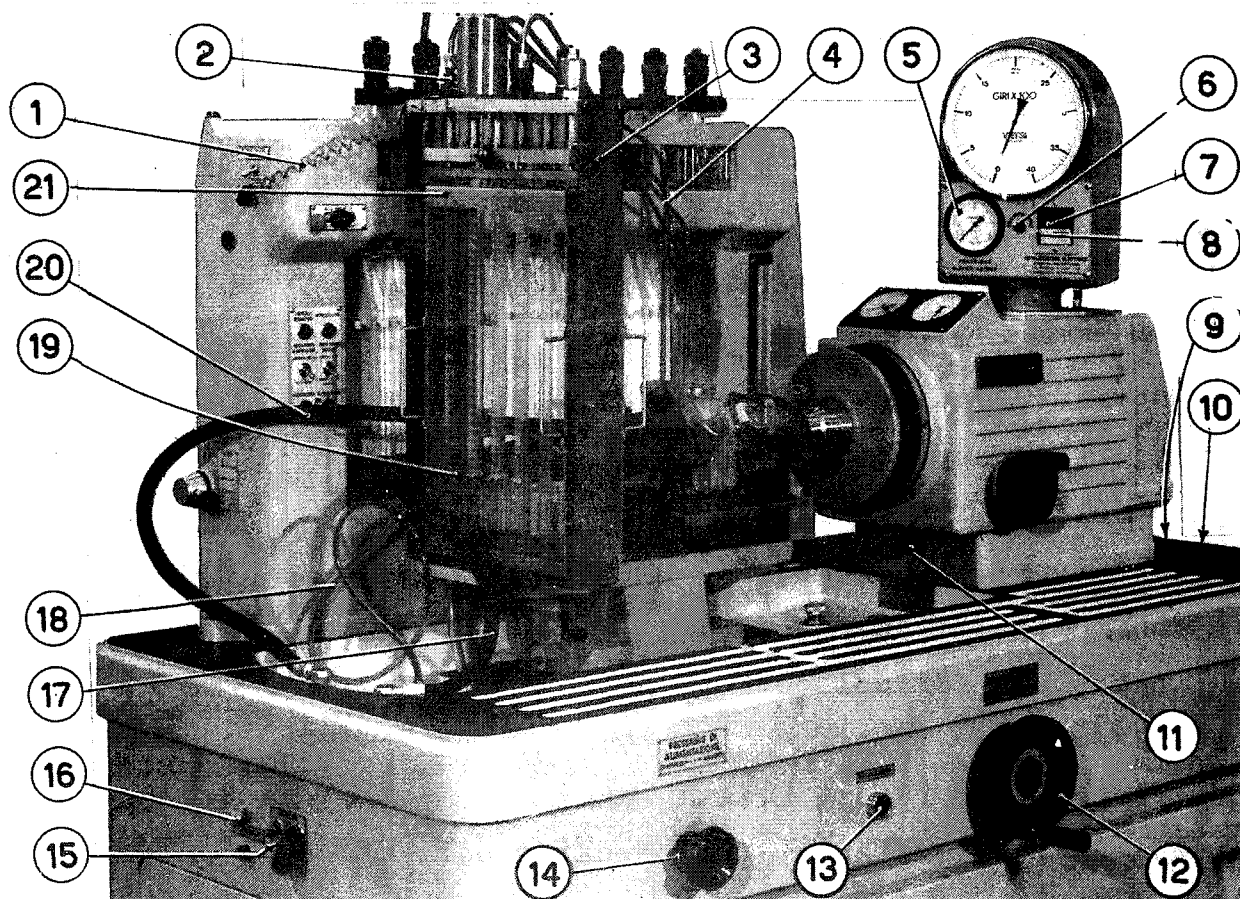
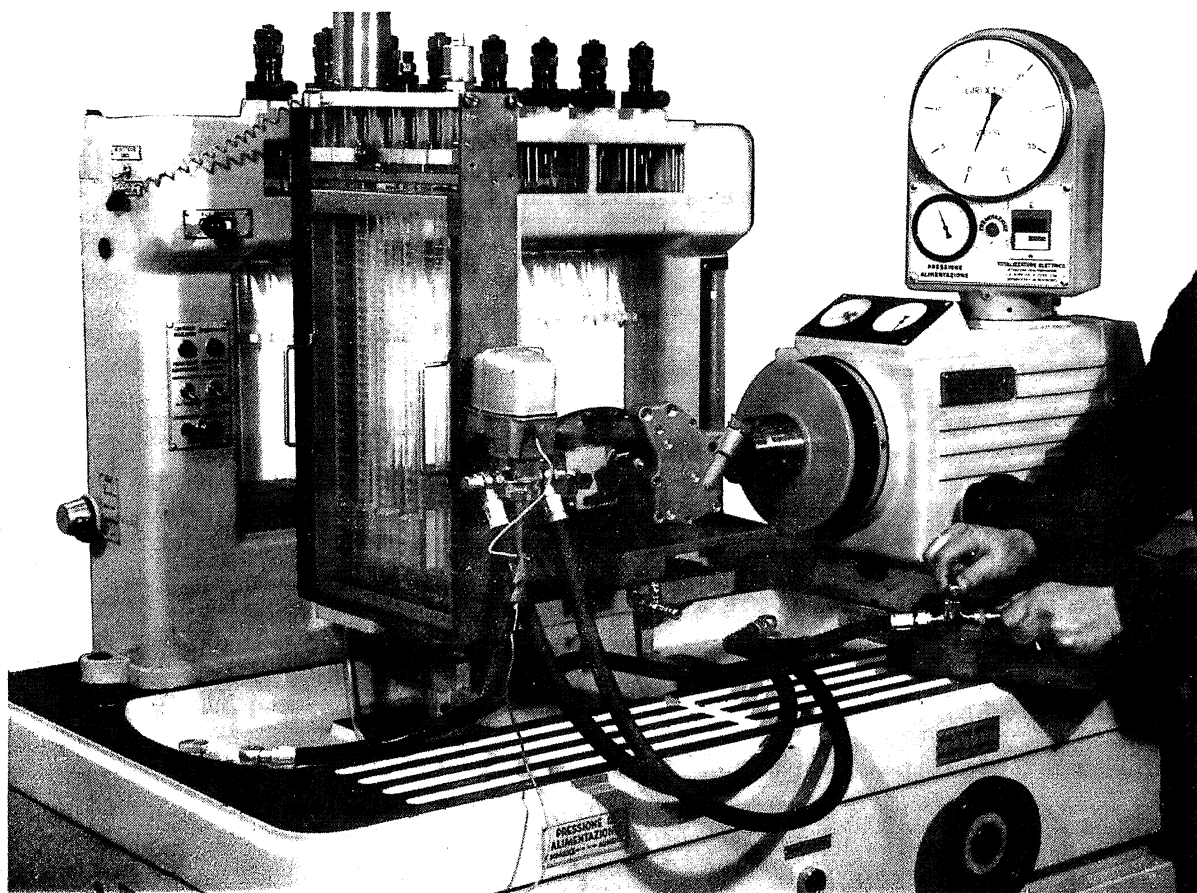

Fig. 1-Injection Pump on Test Bench
Fig. 3 - Lift Pump on Test Bench
position (see fig. 3);
The lift pump is fitted to the outer side of the test tube carrier support frame (see fig. 3), to which it is secured with two nuts.
With the foregoing operations, the bench pump has been cut-off and has been replaced by the one to be tested; the delivery pressure readings, therefore, will have to be taken on the bench pressure gauge. The pressure has to be regulated by acting on the cock located at the end of the delivery line (see fig.3).
- Connect the pump to the 12 V electric system; to this end, use the proper bridge cable by inserting the plug into the socket (15 in fig. 1) and locking the other end in the pump clamp (see fig.3).
Figure 3 shows the delivery test, for which the delivery pressure has been set to 1.2 kg./sq.cm = 17.07 p.s.i. (see Sketch 1086I); on the contrary, should the cone-shaped valve setting be carried out, it will be necessary to close the clock completely and to follow the procedure described in the relevant operation of the manual "Flavia with Injection Engine".
- Fit the electro-valve into the proper threaded seat (first threaded hole towards operator when the support frame is in the position shown in fig.3) obtained in the top plate of the support frame (which is part of additional equipment 8016350).
- Electrically connect the electro-valve; to this end, use the proper jumper cable (provided with plug and jack), connecting the electro-valve to the 12 V d.c. socket (15 in fig.1) of the test bench.
- set the electro-valve operation electric contact by acting on the proper switch (beside socket 15 in figure 1).